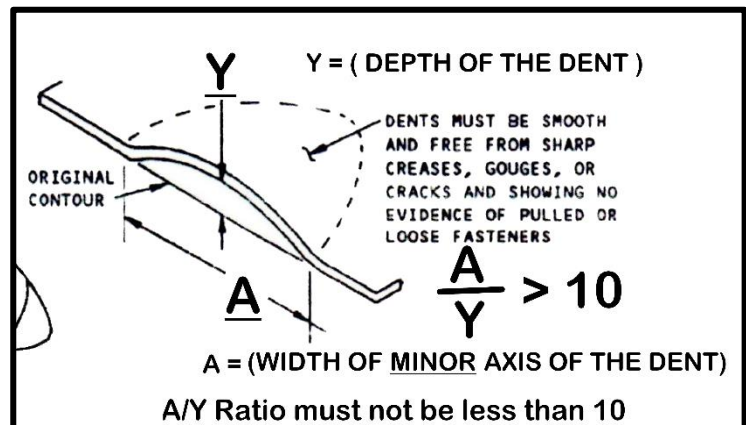

Figure 6
- An excerpt similar to Figure 6 will be provided during the competition. Based on the prescribed A/Y Allowable Limit, recommend whether or not the dent is allowable / non-allowable.